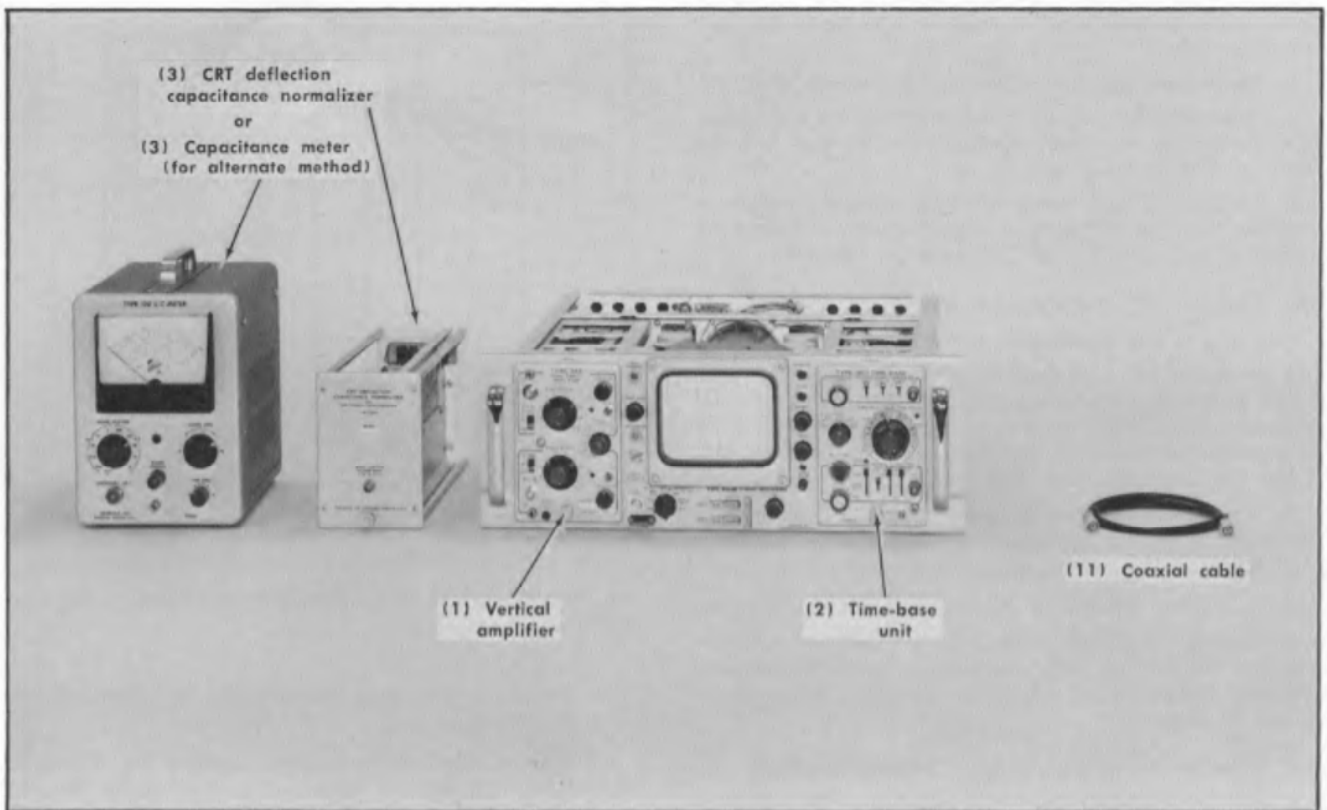

Fig. 5-11. Test equipment required for step 17.
a. Test equipment required for step 17 is shown in Fig. 5-11. The illustrated equipment is keyed to that listed under Test Equipment required.